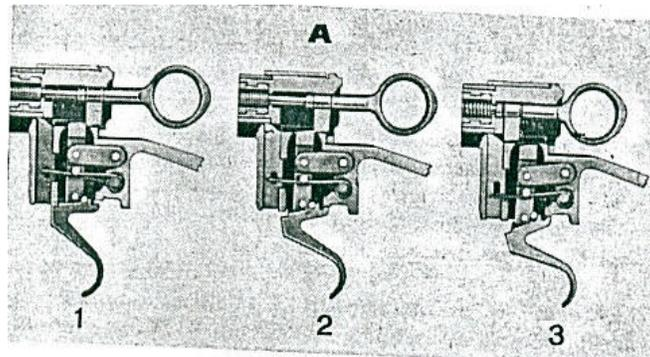

Fig. 17
### 1. Trigger Mechanism and Rifle Discharge (Fig. 17)
- 11 When the weapon is ready to fire, the bolt is closed and locked, the trigger mechanism is armed (normal position. See Fig. 17)